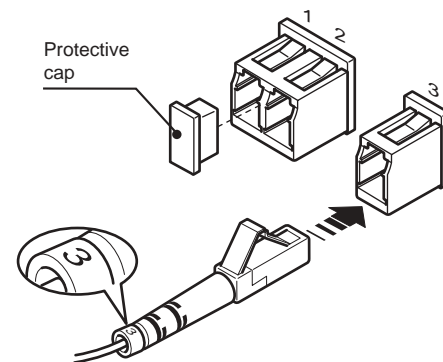

Fig. 5
- Take particular care when inserting fibre optic connectors in their respective sockets on the rear panel of the DigiOptical Image Processor and the rear panel of the Display (Fig. 5).